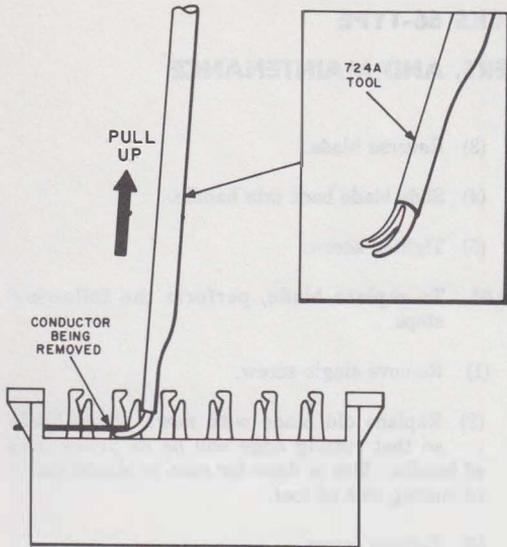

Fig. 2—Removing Conductor With 724A Tool
2.06 The 724A tool (Fig. 2) is used to remove conductors from the terminals of 66-type connecting blocks. The tool consists of a 2-pronged fork with an insulated handle. The fork is sized to fit around the beams of the terminal and underneath the seated conductor. Use of the 724A tool reduces the possibility of disturbing or degrading adjacent wire connections during removal of wire.